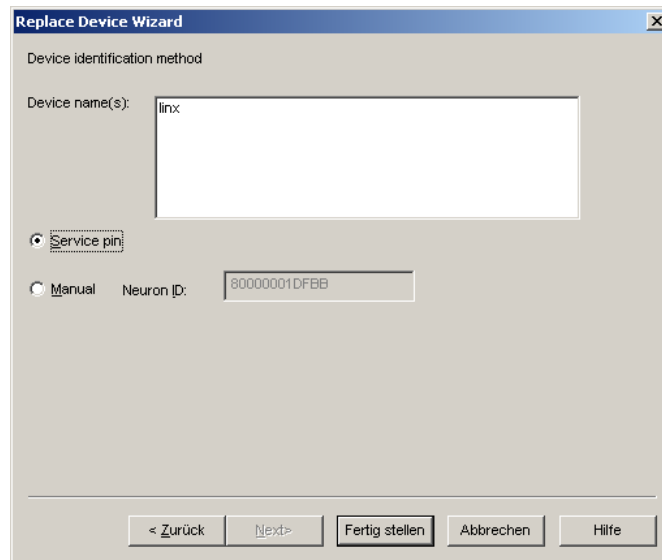

Figure 165: Select Service Pin and click Finish.
- Select the **Service pin** method and click on **Finish** as shown in Figure 165.